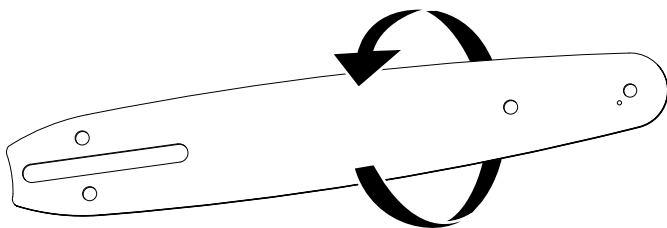

Fig. 15
2. Remove the chain from the guide bar and flip the guide bar over (Fig. 15), so the bottom of the bar is facing up.